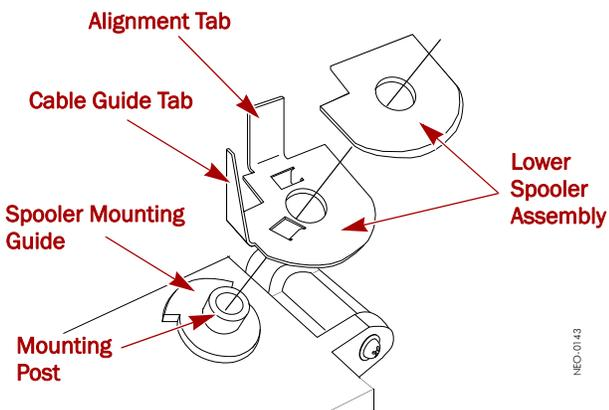

Figure 4. Installing the Lower Spooler Assembly
- Place the retained two-piece **lower spooler assembly** on the spooler mounting post (see Figure 4) of the new shuttle.